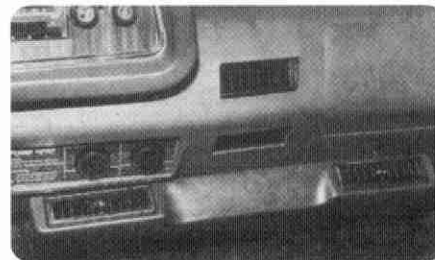

Figure 27
33. Remove and discard carpet trim strip around "recirc" hole (Figure 27).